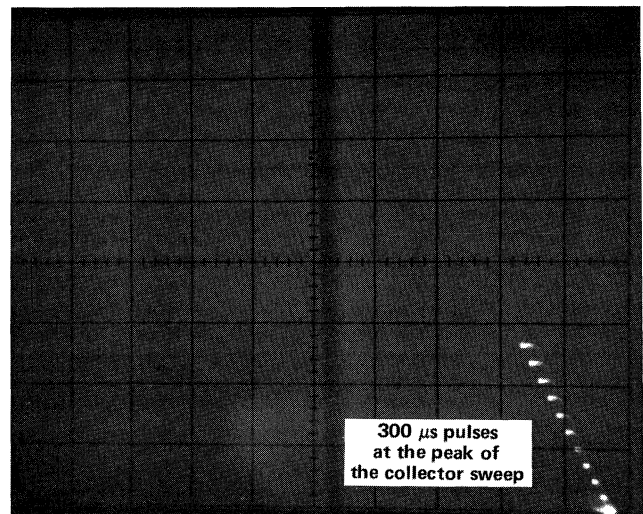

Fig. 12. Illustration of step 14 (300  $\mu$ s PULSED)
12. Note that the collector supply has switched to DC and each step is a short duration (300  $\mu$ s) pulse (see Fig. 12). Turn the VARIABLE COLLECTOR % control slowly counterclockwise and note that the curve is traced and stored (with D1 Display Unit).